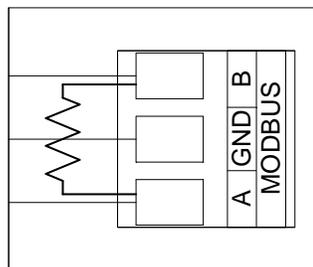

Figure 20: Installing the Terminating Resistor
- For VOC Pro or T3A slave devices, there is no ground jumper. If a T3A or VOC Pro is the final slave device in the line, install a 120 Ohm, 3/4W termination resistor across the Modbus terminals A and B shown in Figure 20.